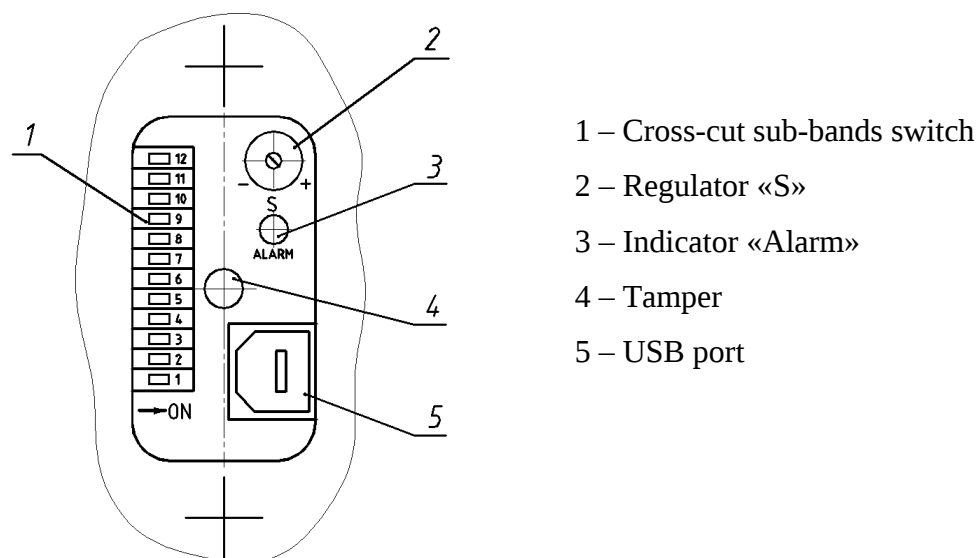

Fig. 9.2
- 9.1.3. The required detection zone configuration is set using the 12-position microswitch. The sensitivity is modified using the regulator «Sensitivity» - «S» according to Fig. 9.2.